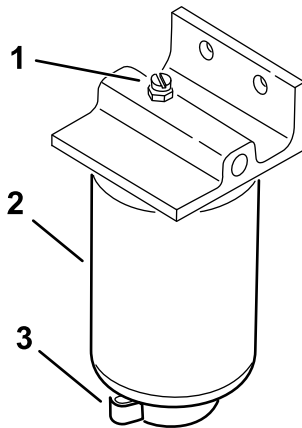

Figure 39
4. Open the filter drain plug and breather valve (Figure 39).